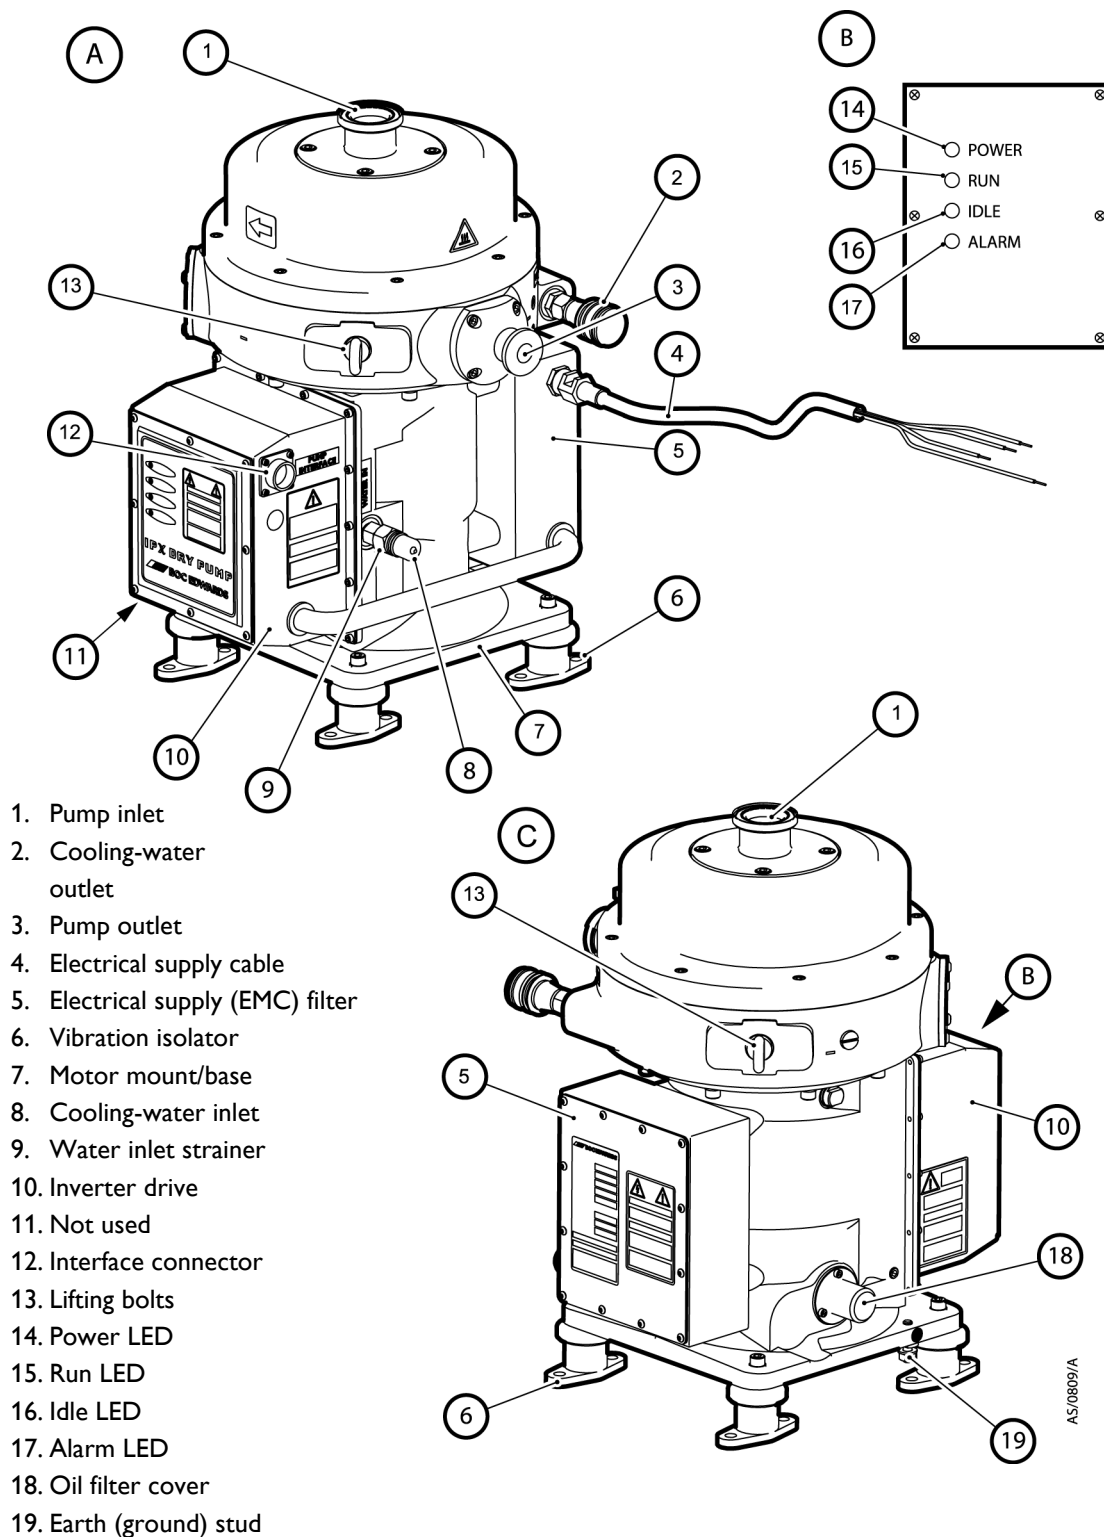

Figure 2 - The IPX pump
Refer to Figures 2 and 3. The pump has an electrical supply (EMC) filter (5) and an inverter drive (10), which provides the electrical supply to the pump-motor. LEDs on the inverter drive identify the status of the IPX pump: see Section 1.4. Motor speed depends on the pressure at the pump inlet. When you first start up the pump with the inlet pressure at or close to atmospheric pressure, the motor accelerates to a speed which is limited by the power which can be supplied by the inverter drive. As the pressure at the inlet is reduced, the motor speed increases, until it eventually reaches its preset maximum speed. If the pressure at the inlet increases, the motor will slow down again.
Refer to Table 1, Figures 2 and 3.
Refer to Table 2, Figures 2 and 3.
The IPX pump cannot be manually operated; it must be controlled and monitored by your own control equipment, which you must connect to the IPX pump through the interface connector (Figures 2 and 3, item 12). The signals on the interface connector are of two types: control inputs and status outputs. (Table 3).